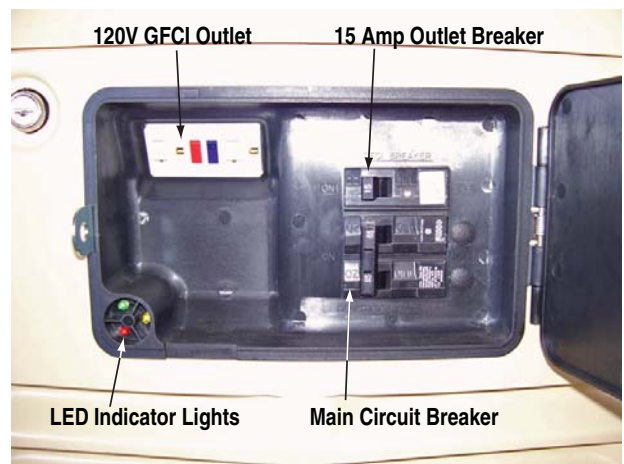

Figure 1
1. Turn the Main Circuit Breaker off (Figure 1).
2. If generator has a GFCI Outlet and it is being used, turn off the 15 Amp Outlet Breaker (Figure 1).